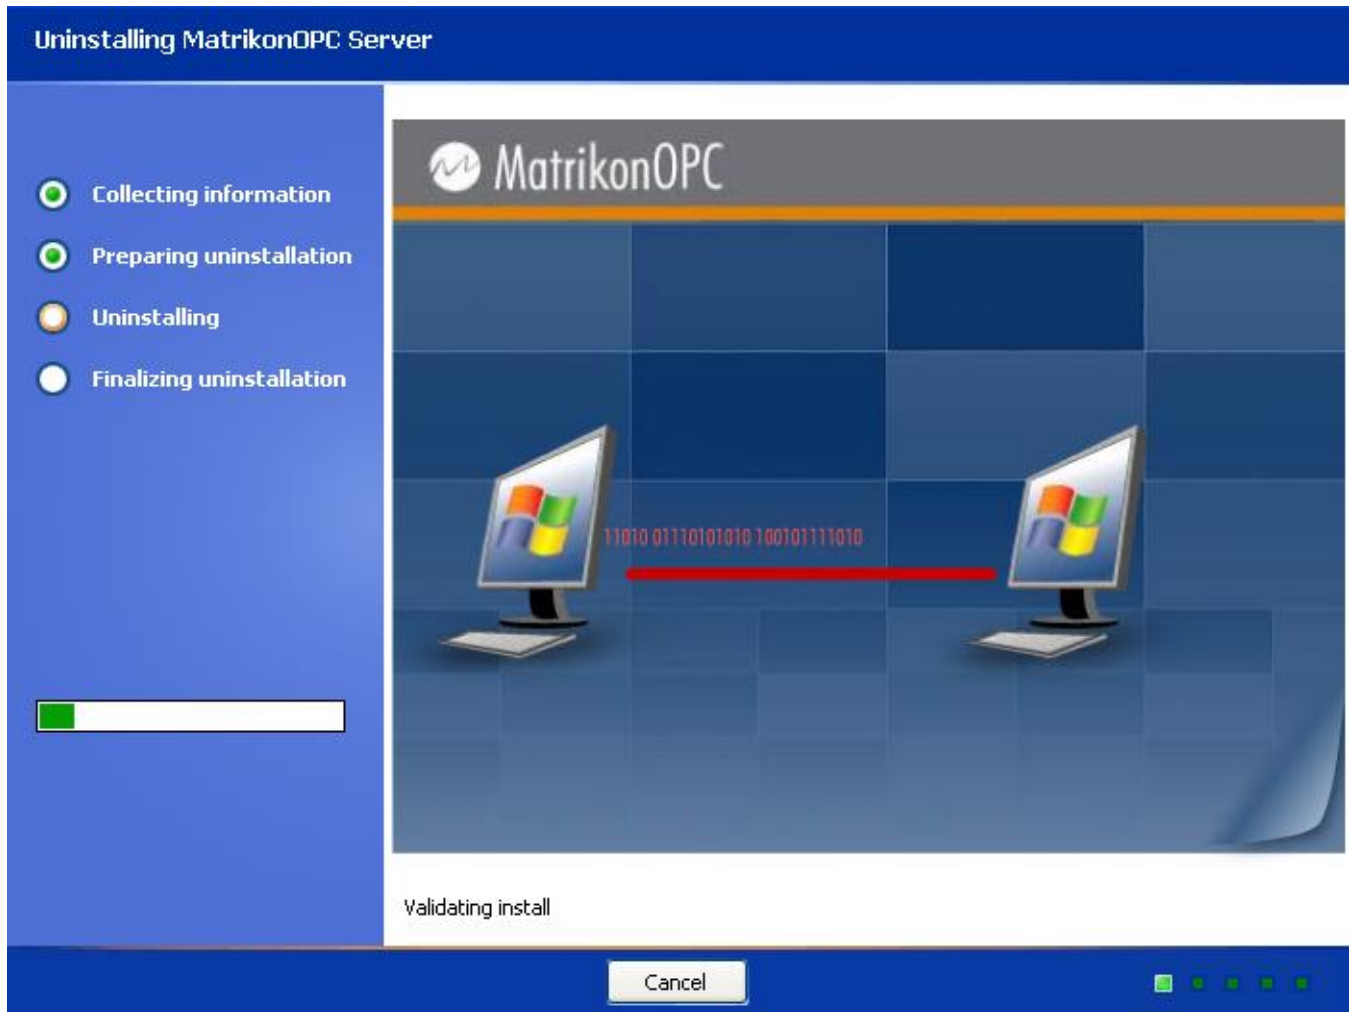

Figure 76 - Uninstalling MatrikonOPC Server for Vestas Screen
10. The **Uninstalling MatrikonOPC Server for Vestas** screen (Figure 76) appears and the un-install takes place.